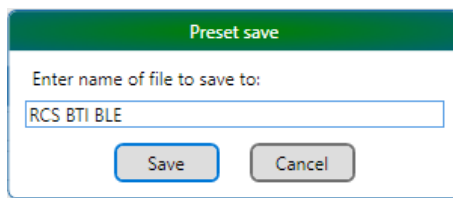

Figure K.5
2. Enter the template name and click the "Save" button (Fig. K.5):